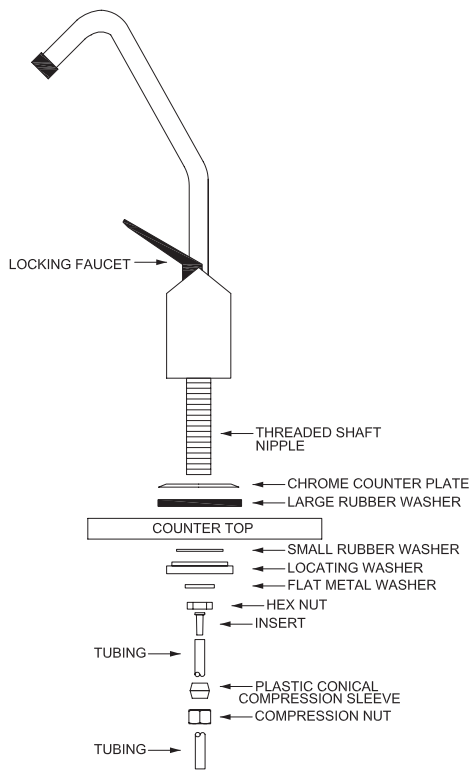

Figure 5
- Place the small rubber washer, locating washer, flat metal washer, and hex nut in sequence over the threaded shaft and temporarily hand-tighten. (Fig. 5)